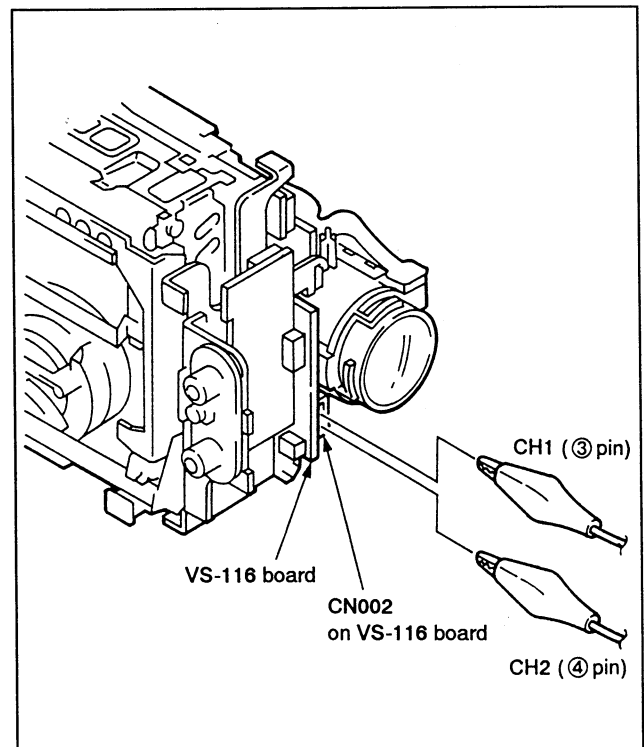

Fig.8-1.
- 4) Check that the RF waveform of the oscilloscope is flat at both inlet and outlet sides. If not flat, make adjustment as follows. (Refer to Fig. 8-1 and 8-2)